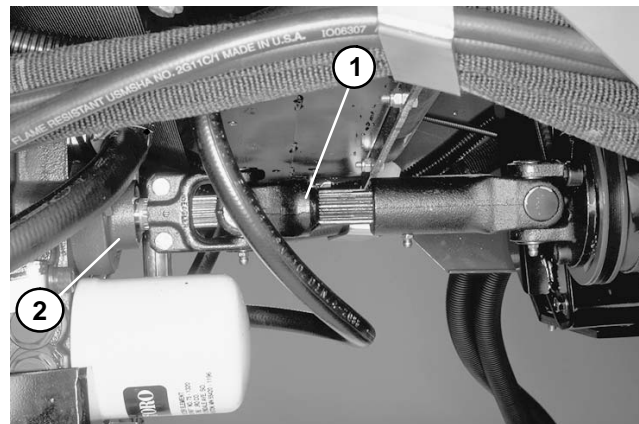

Figure 6
1. Loosen and remove capscrews securing the drive shaft to the engine drive coupler. Loosen capscrews clamping drive shaft to transmission (Fig. 6). Remove drive shaft.
5. When towing is completed, reinstall driveshaft. The splines are designed to allow assembly only when the two halves of the shaft are properly oriented (Fig. 6).